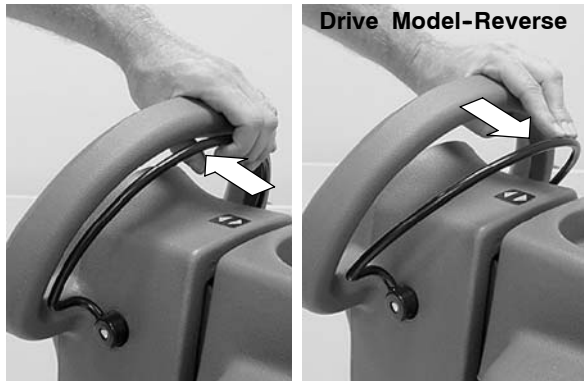

FIG. 19
- Pull the control handle bail backwards to start scrubbing (Figure 19). The drive model will automatically propel forward. To reverse the drive model, simply push the control handle bail forward.